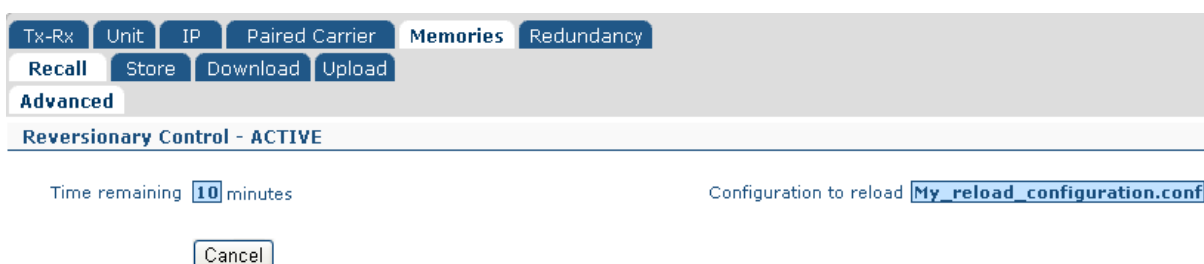

Figure 6-35 Edit->Memories->Advanced Reversionary Control Screen (Active state)
4. Click on the *Reload* button to start the timeout period, at which point the screen will change to that shown in **Figure 6-35**, which shows the remaining timeout period along with the name of the configuration memory that will be reloaded. In addition, the *Reload* button changes to a *Cancel* button.